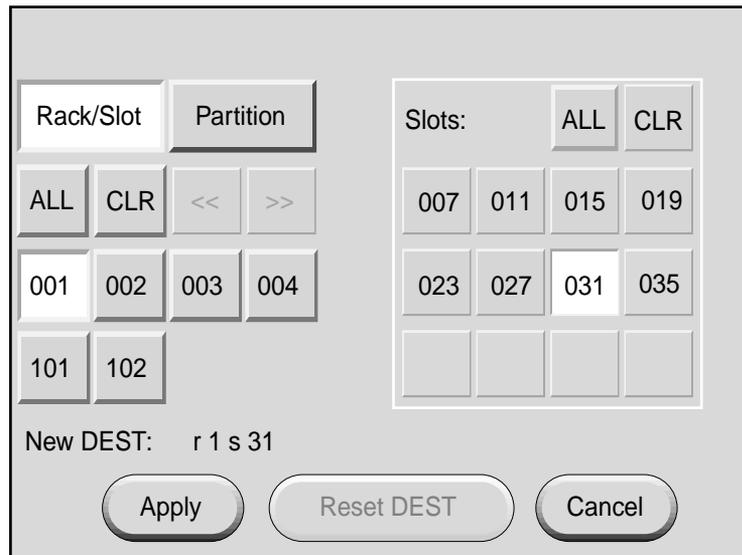

Figure 8-13 Targeting Single Brick
To select a single brick within a rack, see Figure 8-13 and follow these steps:
2. Press the button for the rack (for example, Figure 8-13 shows rack 001 selected).
3. Press the button for the slot (for example, Figure 8-13 shows the brick in slot 031 selected).
The new destination is reflected in the destination field near the bottom of the display window. For example, Figure 8-13 shows rack 001, slot 031 (r1 s31) as the destination.